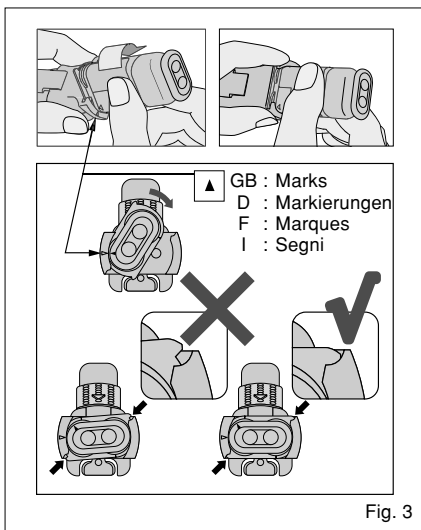

Fig. 3
- b. Load the cartridge into the Paste Pak Dispenser. (Fig. 3)